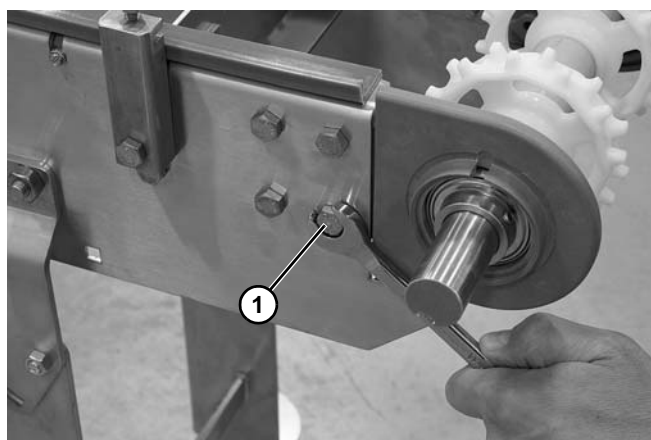

Figure 48
5. Remove the four headplate screws (Figure 48, item 1) on both sides of the conveyor.